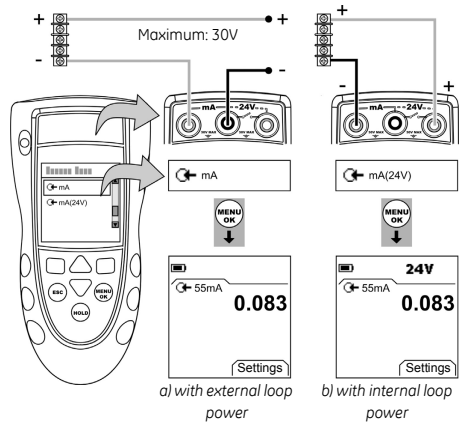

Figure 4: Example configuration - mA measurement
1. Connect the instrument (Figure 4) and, if necessary, adjust the *Set Up* (Table 1).